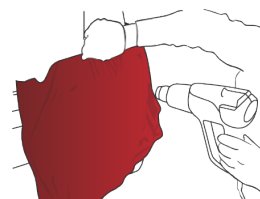

Figure 16
- › After this operation, heat to a temperature ranging from 40 °C to 50 °C (from 104 °F to 122 °F) (from 30 °C to 40 °C (from 86 °F to 104 °F) for the HX45CA890B, HX45CA891B, HX45CA892B (FIG. 16) and stretch the film to eliminate all folds using the squeegee.